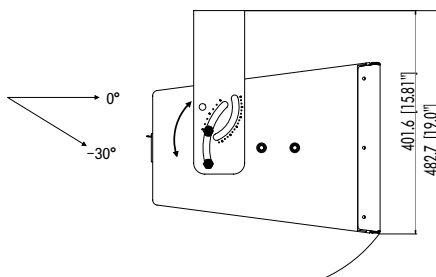

Fig. 7:
- both bolts are fitted to the semi-circular slot (b) on each end of the bracket (Fig. 7). The vertical coverage angle can be set over a range of 30° (0° to -30°) and defined by the resulting angle of the loudspeaker axis relative to the plane of the mounting surface. The angle can be read from the point on the scale that corresponds to the centre of the fixing screw in slot (b).